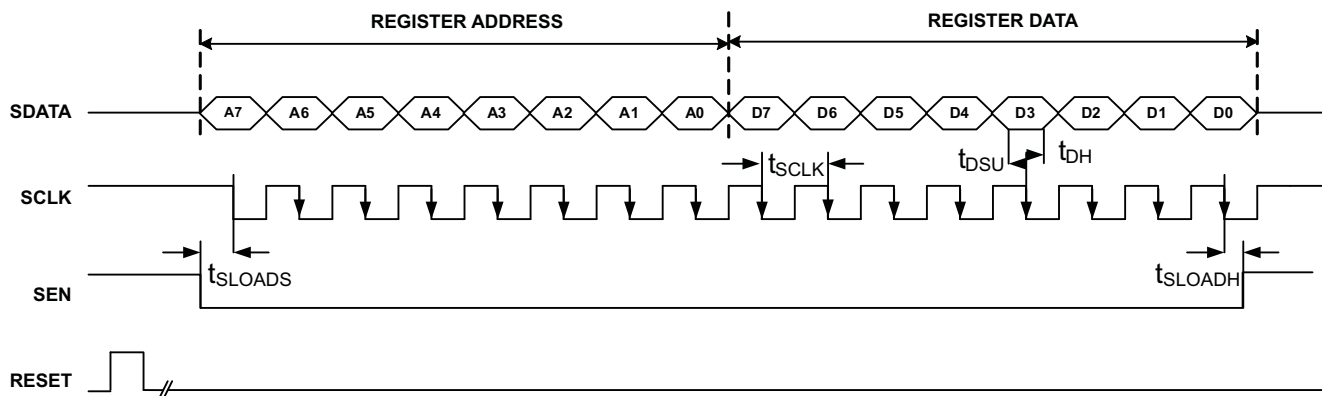

Figure 6. Serial Interface Timing
1. Either through hardware reset by applying a high-going pulse on the RESET pin (of width greater than 10 ns) as shown in Figure 6.